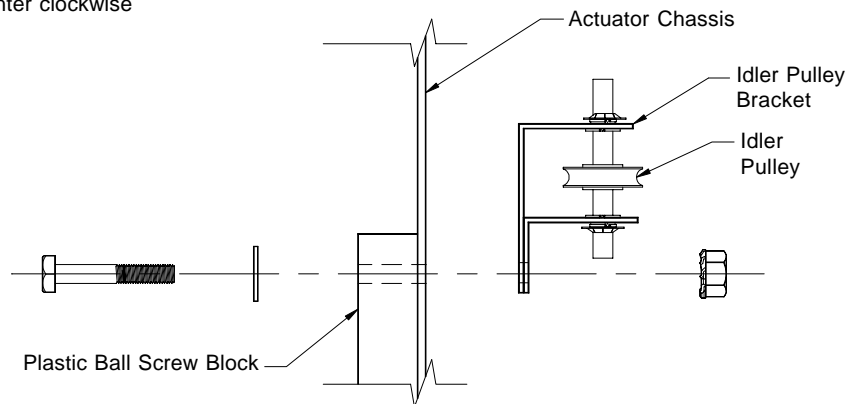

Figure 5
- 7) Install new idler pulley bracket assembly using the pair of mounting bolts and nuts removed in Step 3, from the previous idler pulley bracket. **See Figure 5.**